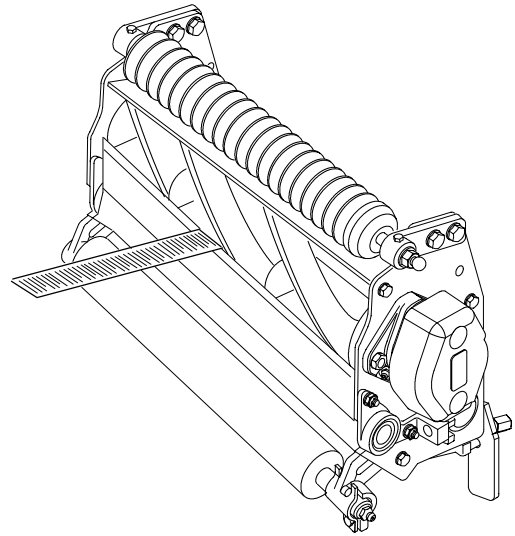

Figure 3
3. On either end of front side of reel, insert a long strip of newspaper between the reel and bedknife (Fig. 3). While slowly rotating the reel forward, turn the bedknife adjusting knob clockwise, one click at a time, until the paper is pinched lightly on one end of the reel, which results in a slight drag when the paper is pulled.